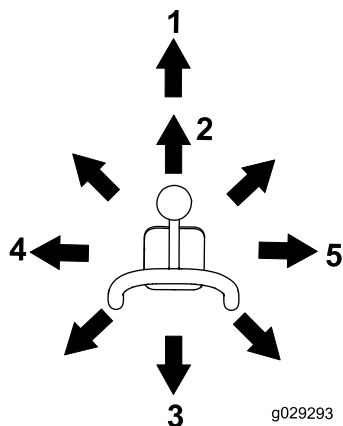

Figure 11
- To tilt the attachment forward, slowly move the lever to the right (Figure 11).
- To tilt the attachment rearward, slowly move the lever to the left (Figure 11).
- To lower the loader arms, slowly move the lever forward (Figure 11).
- To raise the loader arms, slowly move the lever rearward (Figure 11).
- To lower the loader arms to a detent (float) position, push the lever fully forward (Figure 11).